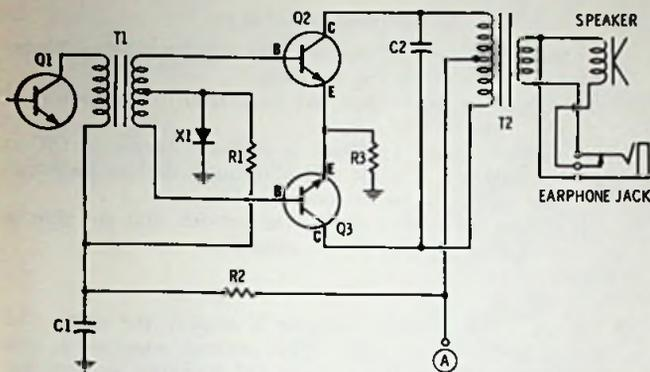

Fig. 12-16. Circuit for Questions 13 through 17.
13. In Fig. 12-16, the purpose of diode X1 is to
14. In Fig. 12-16, the purpose of R3 is to
15. In Fig. 12-16, the dc bias on Q2 as compared to Q3 is
16. In Fig. 12-16, the polarity of the voltage with respect to ground at point A should be
17. In Fig. 12-16, the purpose of C2 is